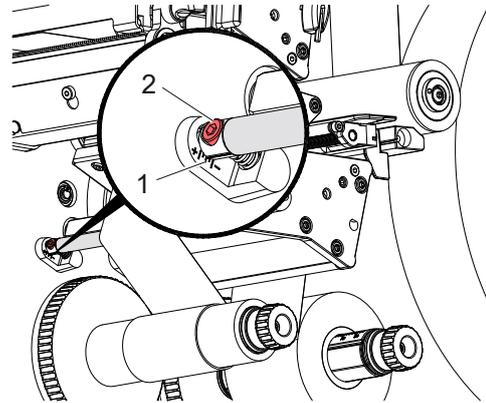

Figure 19 Setting the lower ribbon feed path
6. Slide suitable transfer ribbon core (4) onto the transfer ribbon take-up hub (5). Position and secure it in the same way like the supply roll.
7. Guide transfer ribbon through the print unit as shown in Figure 19.
8. Secure starting end of transfer ribbon to middle of the transfer ribbon core (4) with adhesive tape. Ensure counterclockwise rotation direction of the transfer ribbon take-up hub.
9. Turn transfer ribbon take-up hub (5) counterclockwise to smooth out the feed path of the transfer ribbon.
10. Turn lever (6) clockwise to lock the printhead.
11. Open the flap (8) and load transfer ribbon to the lower print unit (7) in a similar way. All previous statements of direction apply contrariwise excepting the turning of the knobs.